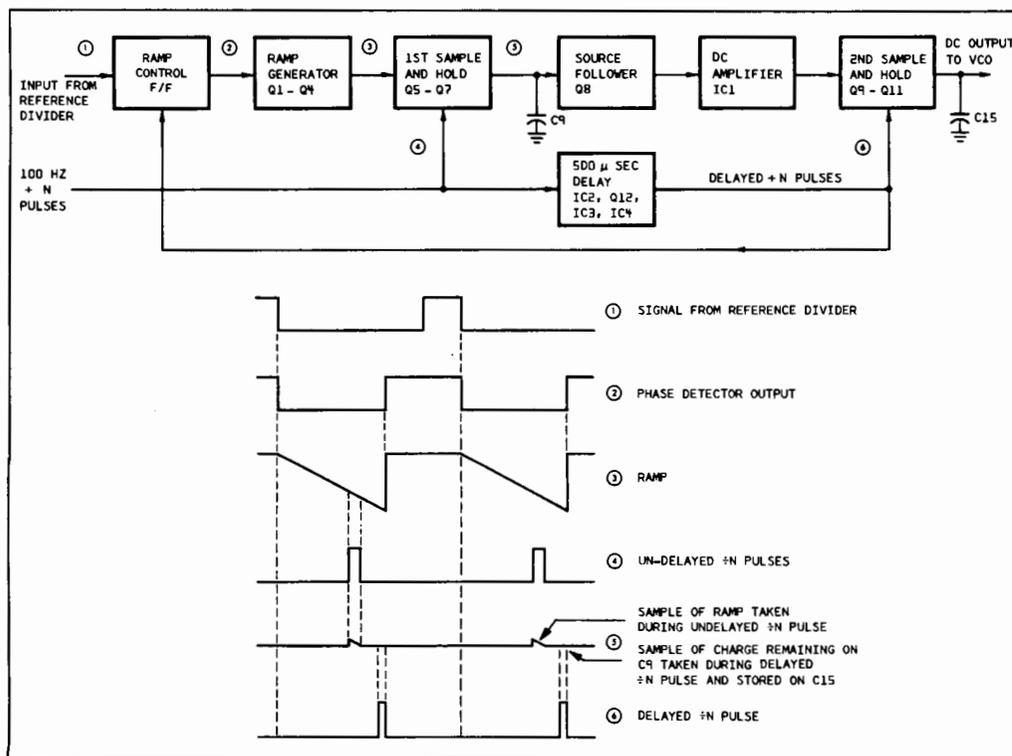

Figure 4-3. Sample and Hold Circuits, Simplified Block Diagram
The Sample and Hold circuits develop a DC control voltage for the Varicap in the VCO circuit that is proportional to the phase relation between the 100 Hz output of the  $\div N$  Counter and the 100 Hz signal that is derived from the M.O. output. Figure 4-3 is a block diagram of the sample-and-hold circuits.
4.58 The voltage on C9 is not suitable as a control voltage for the VCO Varicap because of the sampling ripple that is present, shown on the waveforms in Figure 4-3. The delayed  $\div N$  pulse therefore activates a second sampling circuit so that a sample can be taken of the charge on C9 between un-delayed  $\div N$  pulses.